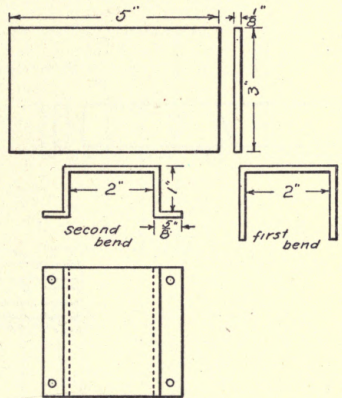

FIG. 213. — IRON FOR LEVELING ROD.
1. A piece of strap iron or heavy soft brass, Fig. 213, can be used for this slide. It is laid out with a pencil; and a line  $1\frac{1}{2}$ " from each end is drawn across the piece, leaving 2" in the middle. Two other lines  $\frac{1}{2}$ " from each end complete the laying out. The two ends are bent down at right angles. At the lines  $\frac{1}{2}$ " from each end the iron is bent out again. The screw holes are then drilled.